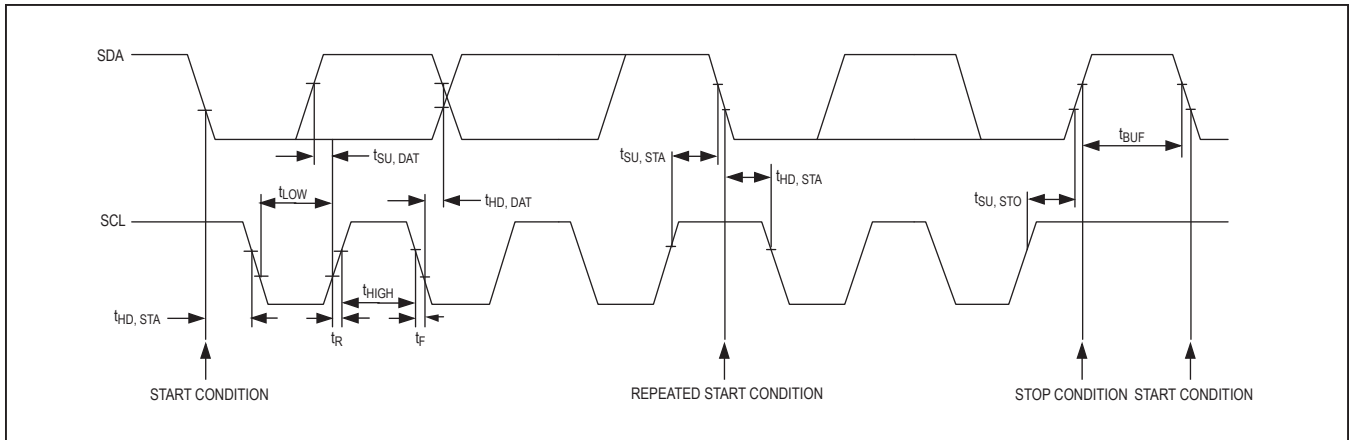

Figure 2. 2-Wire Serial Interface Timing Details
**Timing Characteristics (Figure 2)**(  $V_{V+} = 2.5V$  to  $5.5V$ ,  $T_A = T_{MIN}$  to  $T_{MAX}$ , unless otherwise noted.) (Note 1)
**Timing Characteristics (Figure 2) (continued)**
The MAX7300 operates as a slave that sends and receives data through an I2C-compatible 2-wire interface. The interface uses a serial data line (SDA) and a serial clock line (SCL) to achieve bidirectional communication between master(s) and slave(s). A master (typically a microcontroller) initiates all data transfers to and from the MAX7300, and generates the SCL clock that synchronizes the data transfer (Figure 2).